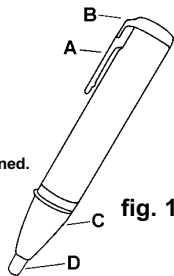
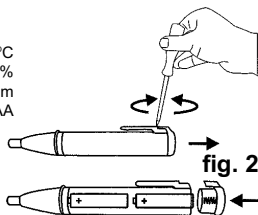

fig. 1
fig. 2
- 4.1. With the batteries installed (see Section 5), slide the pocket clip (fig. 1.A) down to the ON position.
- 4.2. Bring the probe (fig. 1.D) close to the conductor and the LED and audio output will indicate the presence of an AC voltage within the range 50 - 1000V. If it is necessary to determine the magnitude and/or frequency of the voltage appropriate test equipment will be required.
- 5.1. Use a small screwdriver to remove the battery cover (fig. 1.B and fig. 2).
- 5.2. Install batteries with polarity as shown in fig. 2 and replace cover, pressing it home until it latches.